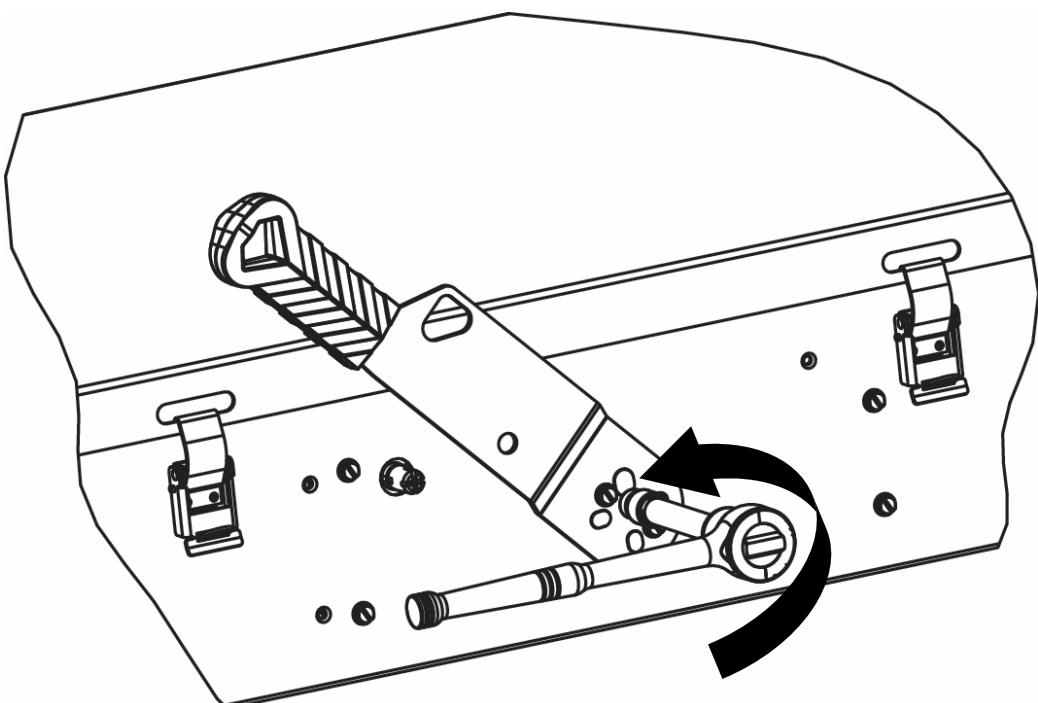

Fig. 7
6. Remove the two existing handle mounting screws and handle as shown in Fig. 7. Do not throw away components.